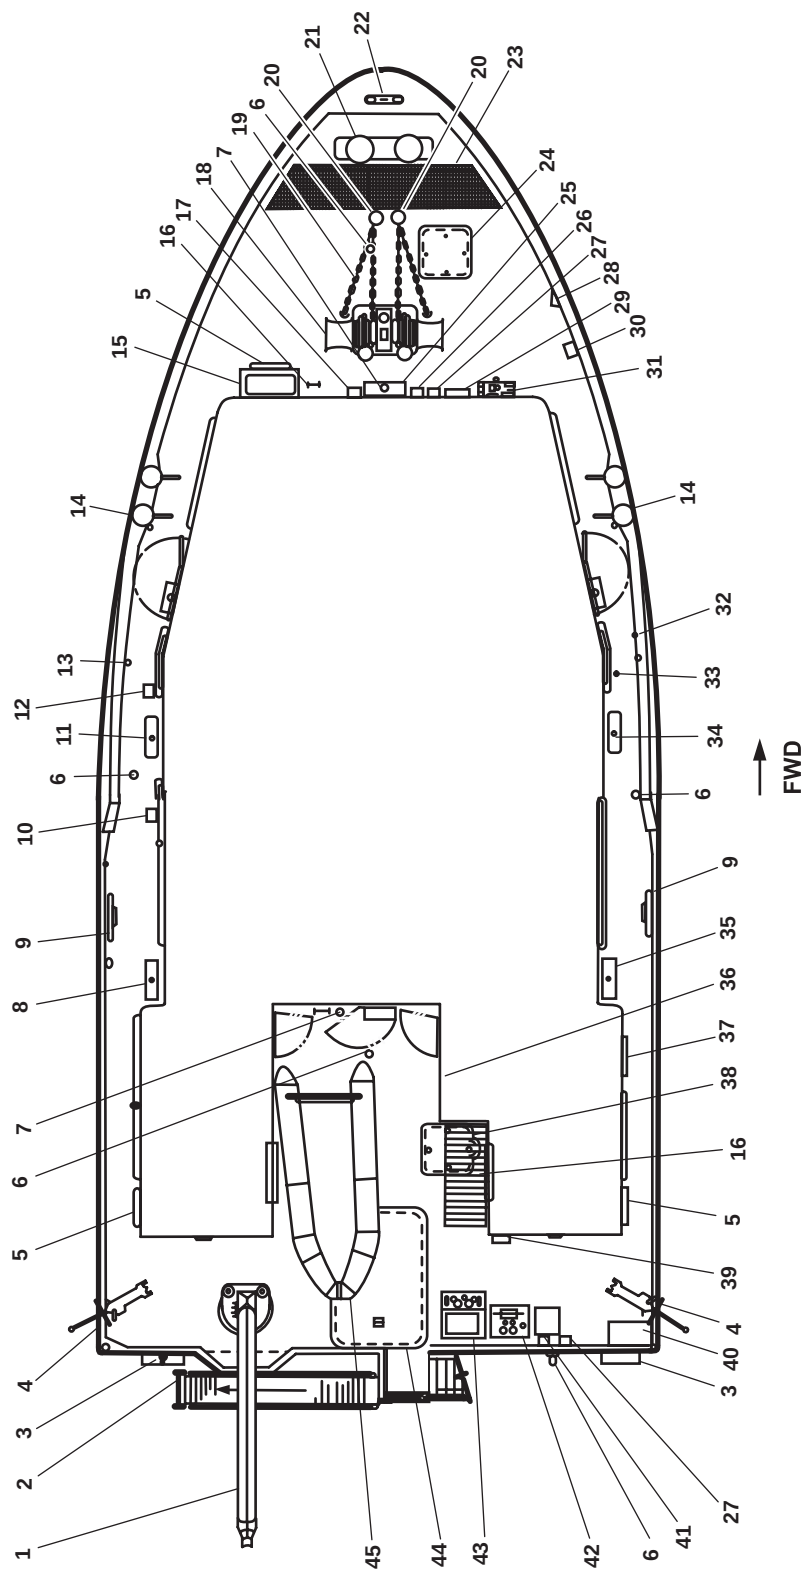

Figure 1. 01 Level Exterior
47. Tow gear locker natural air vent (figure 1, item 47). This vent provides fresh air ventilation to the starboard side of the tow gear locker.
48. Fuel oil tank 4S sounding tube (figure 1, item 48). The fuel oil tank 4S sounding tube is provided to measure the level of fuel oil in fuel oil tank 4S.
49. Fuel oil tank 4S cutoff valve (figure 1, item 49). This valve provides remote cutoff for fuel oil tank 4 starboard.
50. Tow bar (figure 1, item 50). The tow bar protects the polyfiber grating and rudder motors from damage caused by contact with the towing hawser(s).
51. Fuel oil tank 4S vent and spill container (figure 1, item 51). This vent vents fuel oil tank 4S to weather. The spill container contains spillage from accidental overfilling.
52. Hatch (figure 1, item 52). This hatch provides access to the steering gear compartment.
53. Rudder motor (figure 1, item 53). The rudder motors move the rudders into the requested position as directed by the helm or auxiliary control stations.
54. Chaffing bar (figure 1, item 54). The chaffing bar protects the polyfiber grating and the rudder motors from damage caused by contact with the towing hawser(s).
1. Crane (figure 1, item 1). The hydraulically powered crane is used to deploy and recover the workboat, to install or stow the accommodation ladder, and to handle towing gear.
2. Accommodation ladder (figure 1, item 2). When installed, the accommodation ladder provides easy access from the shore or another vessel.
3. Floodlight (figure 1, item 3). The halide floodlight provides illumination for the fantail.
4. 50 Cal. machine gun mount (figure 1, item 4). The mount supports the air cooled, belt-fed heavy machine gun (M2HB) used for vessel protection.
5. Life ring (figure 1, item 5). The life ring provides an emergency personal flotation device.
6. Countermeasure washdown sprinkler (figure 1, item 6). The countermeasure washdown sprinkler uses raw water to remove Nuclear, Biological, and Chemical (NBC) contamination.
7. Floodlight (figure 1, item 7). The adjustable 200-watt incandescent floodlight provides illumination for the aft 01 level weather deck.
8. Vent for fuel oil tank 3C and fuel oil day tank with the spill container (figure 1, item 8). The vent ventilates the oil and fuel tanks to weather. The spill container catches any overflow of fuel.
9. Cleat (figure 1, item 9). The cleat is used to secure lines.
10. Lube oil fill connection (figure 1, item 10). The lube oil fill connection provides a portal for lube oil transfer to the tanks.
11. Vent for lube oil tank, fuel oil tank 2P, and hydraulic oil tank with the spill container (figure 1, item 11). The vent ventilates the oil and fuel tanks to weather. The spill container catches any overflow of the lube oil, fuel oil, and hydraulic tank.
12. Hydraulic oil fill connection (figure 1, item 12). The hydraulic oil fill connection provides a portal for the hydraulic oil transfer to tank.
13. Lube oil tank sounding tube (figure 1, item 13). The lube oil tank sounding tube determines the level of lube oil present in the storage tank.